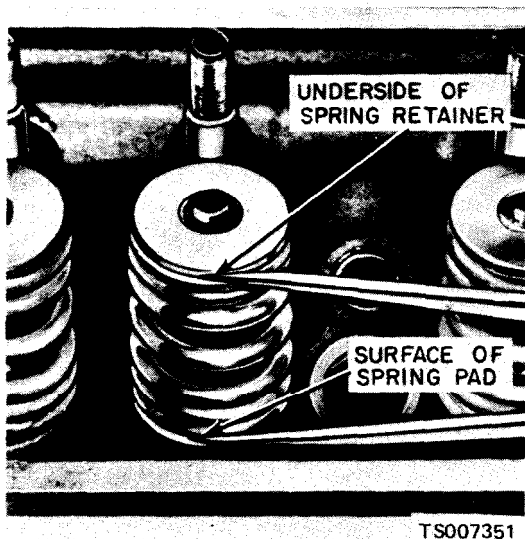

Figure 6-22. Checking Valve Spring Height.
(6) Measure the assembled height of the valve spring from the surface of the cylinder head spring pad to the underside of the spring retainer with dividers (fig. 6-22).